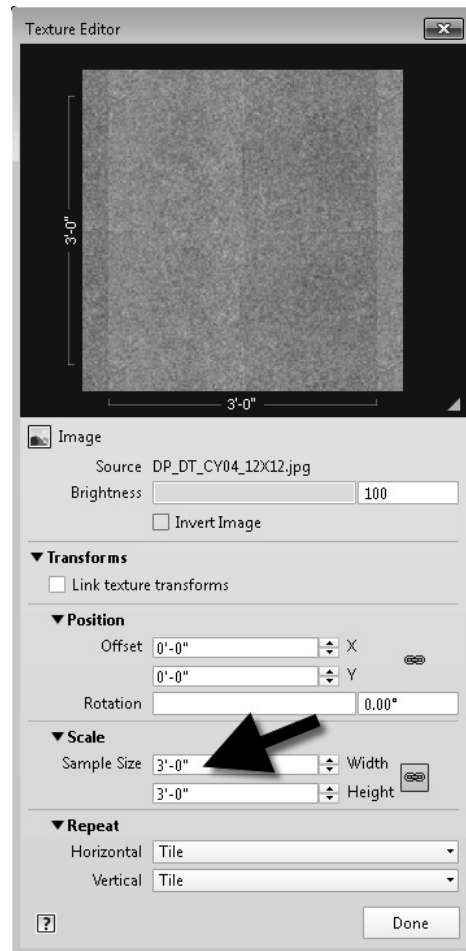

FIGURE 4-4.18 Adjusting texture size
74. In the *Texture Editor*, change the *Sample Size* to **3'-0"x3'-0"**; this is for two 18" tiles in each direction (Figure 4-4.18).